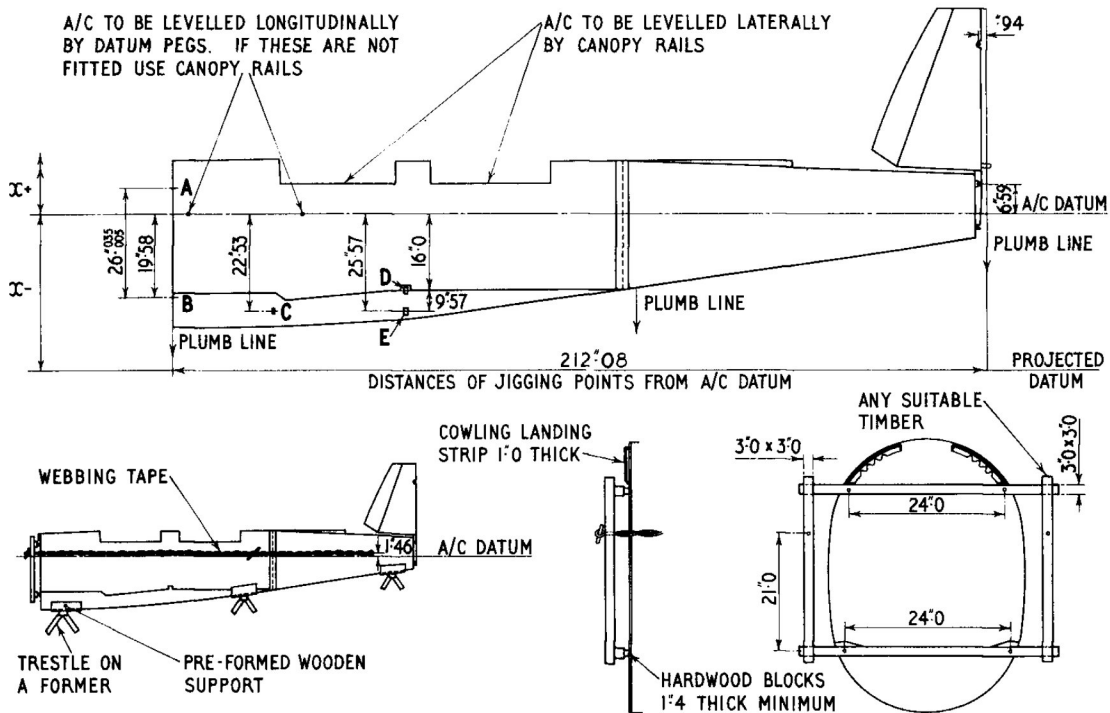

Fig. 1. General arrangement of repair
1. (1) Remove the damaged rear end by releasing attachment of joint strap securing front and rear fuselage.
- (2) Set up the front fuselage on suitable trestles to maintain it in a level position. All trestles must be located beneath a former and use must be made of a pre-formed wooden support between the trestles and the fuselage to prevent concentration of the load at one point.
- (3) Project a datum below the fuselage as shown in the illustration. This enables a cross check on the fuselage level by measuring the dimensions at the various joints on the structure.
- (4) In the production of the fuselage components the rear end of the front portion has been designed as a close fit in the joint strap fitted at the front end of the rear fuselage. A jig must be assembled as shown in fig. 1.
- (5) In some few cases it may be found that datum pegs have not been fitted. In such cases fore and aft and lateral levelling may be effected by use of a clinometer carried on a straight edge sup-
2. (1) With the fin fitted, offer up a fuselage rear end, Part No. R C1 FS 157, to its approximate position and check that it is vertical by measuring the distance of the plumb line from the top hinge position as shown in fig. 1. Make a symmetry check of the diagonal measurements from the underside of the rear bulkhead (Vol. 1).
(3) Check height of tailplane attachments from the projected datum and their distance from the firewall (fig. 1).